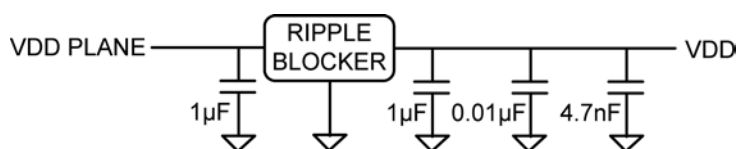

Figure 4. Power Supply Filtering with Ripple Blocker
- To improve power supply filtering beyond what a ferrite bead can provide, Micrel's Ripple Blocker™ provides a solution. MIC94300 or MIC94310 are recommended parts. The filter circuit with Ripple Blocker is shown in Figure 4 and can be used for any of the above VDD sections.